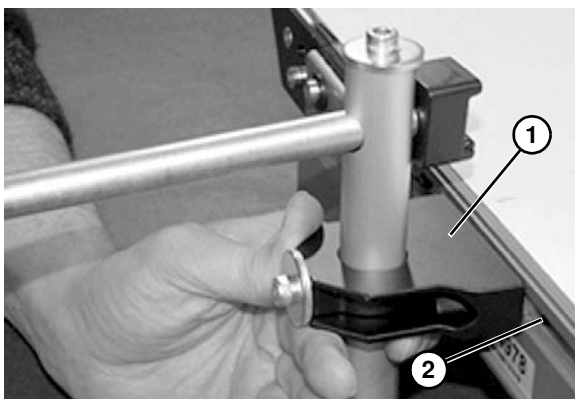

Figure 16
1. Install guide bracket assembly (**Figure 16, item 1**) into the conveyor t-slot (**Figure 16, item 2**).